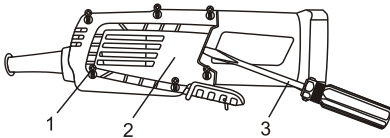

Fig. 8
3. Lay the tool on its left side on a towel or on corrugated (Fig. 8).
4. Remove 6 screws (1) from the right hand side of the handle using a #2 \oplus screwdriver.
5. Carefully pry off the right half of the handle (2) using a small slot screwdriver (3).